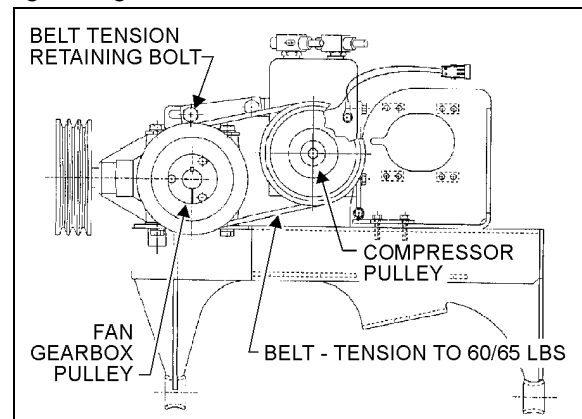

FIGURE 34: SMALL A/C COMPRESSOR INST. 05018A
4. Tighten belt to 60/65 lbf•in (6,5/7 N•m) (Fig. 34), using a belt tension gauge, as per "Instruction Sheet IS94056", then tighten tension retaining bolt.